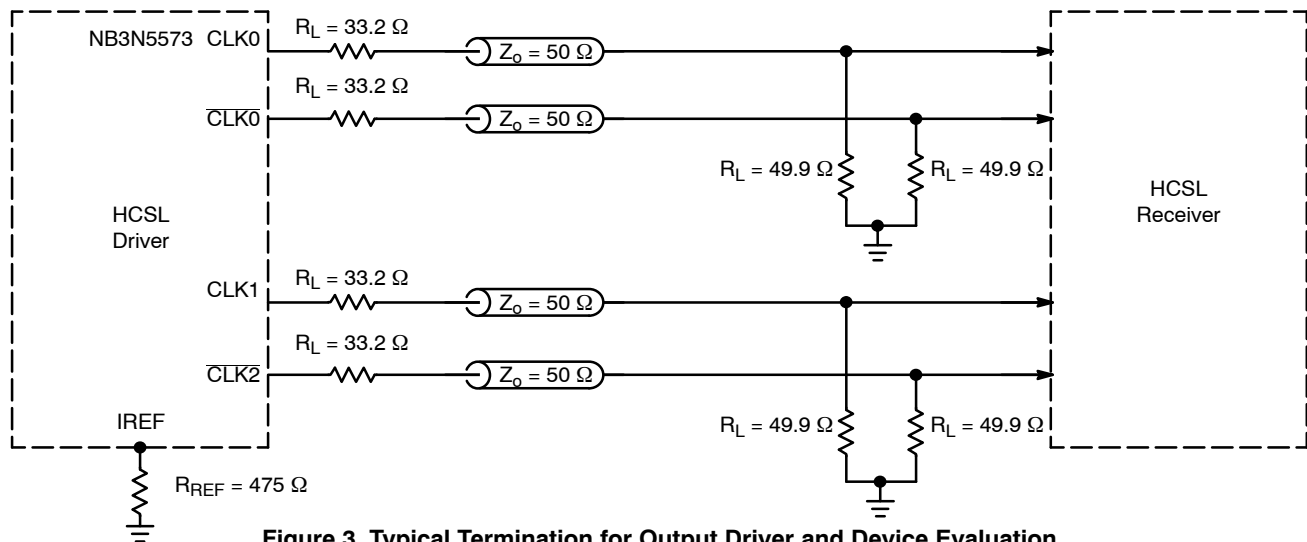

Figure 3. Typical Termination for Output Driver and Device Evaluation
- Measurement taken with outputs terminated with R_S = 33.2 Ω, R_L = 49.9 Ω, with test load capacitance of 2 pF and current biasing resistor set at 475 Ω. See Figure 3.
- Measurement taken from differential output on single-ended channel terminated with $R_S = 33.2\ \Omega$, $R_L = 49.9\ \Omega$, with test load capacitance of 2 pF and current biasing resistor set at 475 Ω . See Figure 3.